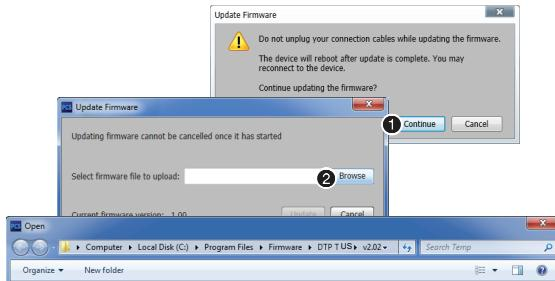

Figure 22. Open Firmware
- Click **Open Firmware File** (see figure 22, ①).